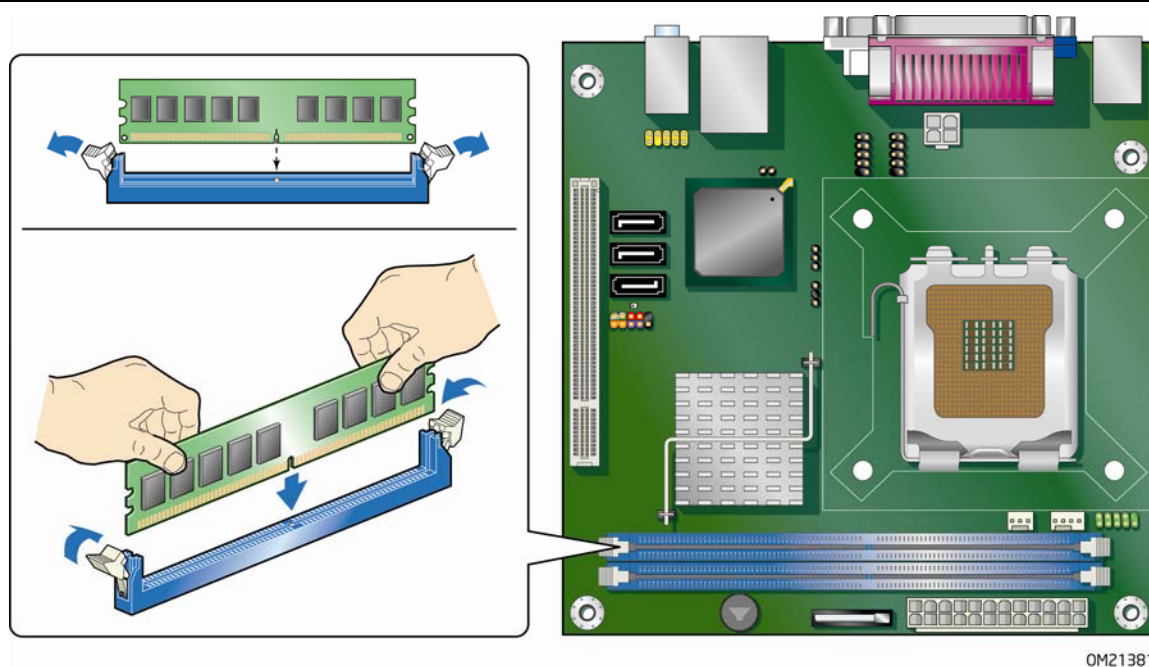

Figure 15. Installing a DIMM
3. Remove the computer's cover and locate the DIMM sockets (see Figure 15).
6. Position the DIMM above the socket. Align the small notch at the bottom edge of the DIMM with the keys in the socket (see inset in Figure 15).